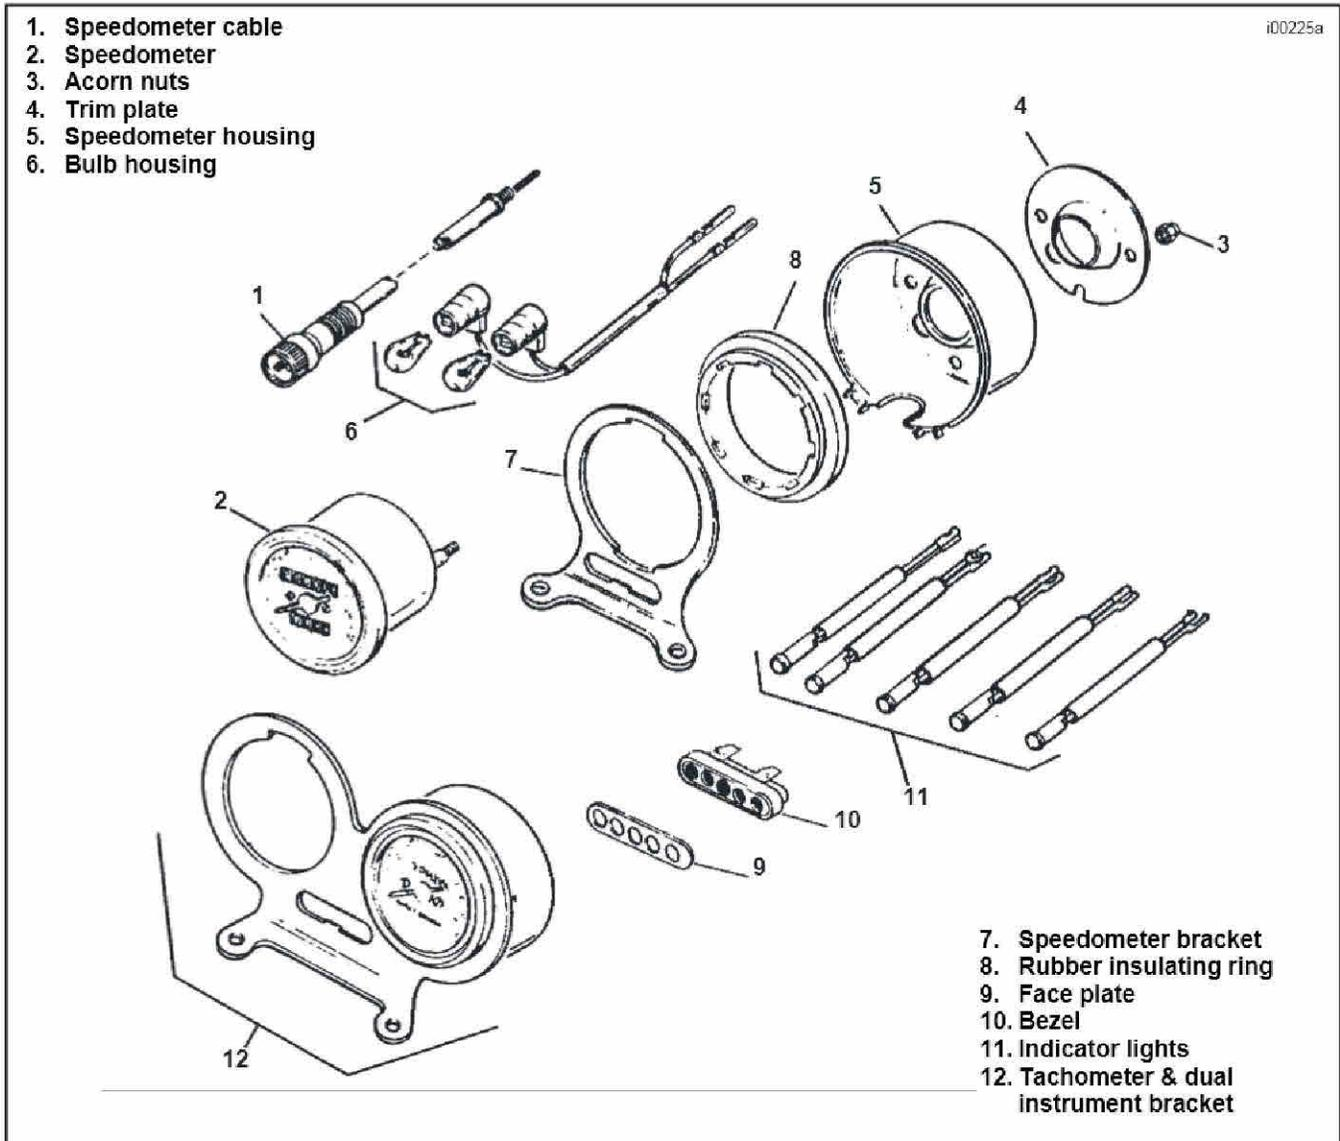

Figure 1. Speedometer
1. See Figure 1. Disconnect speedometer cable (1) from the speedometer (2).
2. Remove acorn nuts (3) from the rear of the speedometer (2). Remove the trim plate (4) and speedometer housing (5).
3. Gently pull the bulb housings (6) out of the rear of the speedometer.
4. Remove the speedometer from the speedometer bracket (7). Remove the rubber insulating ring (8) and save.
1. See Figure 1. Use a thin-blade screwdriver and pry the indicator light face plate (9) from the bezel (10).
2. Push the indicator lights (11) backward (toward the rider) and out of the bezel.
- See Figure 1. Install the speedometer (3) using the rubber insulating ring (8) from the old speedometer bracket.
- Insert the speedometer bulb housings (6) and install the cover (5) and trim plate (4). Secure cover and plate with acorn nuts (2).